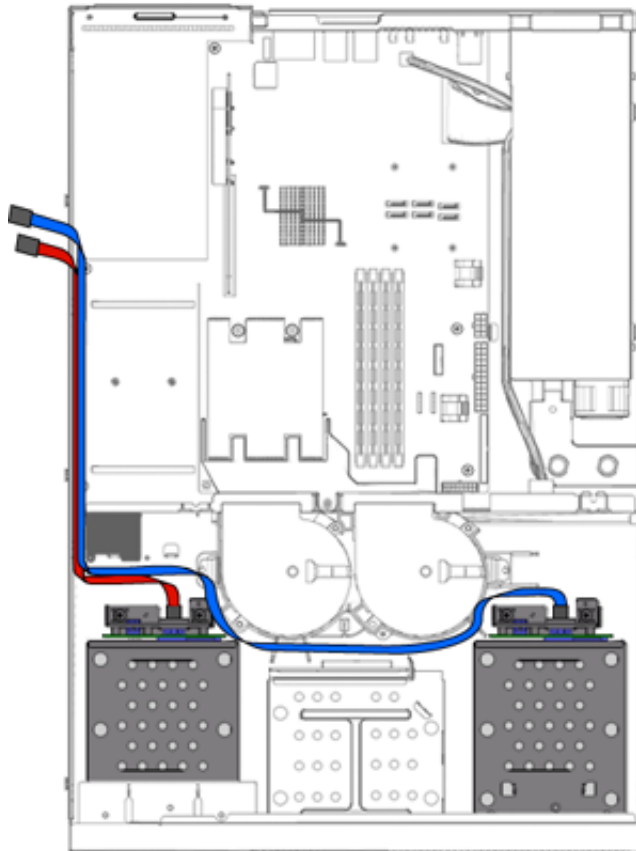

FIGURE 4-12 SAS Drive Cable Routing
3. Reroute the hard drive cables. See FIGURE 4-12.